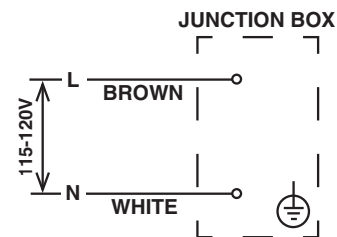

Fig. 7
- Electrical connection must be made in accordance with the instructions on the "WARNING" tag, provided with the pig tail leads in the junction box of the DB-130H/DB-200H. See Fig. 7.